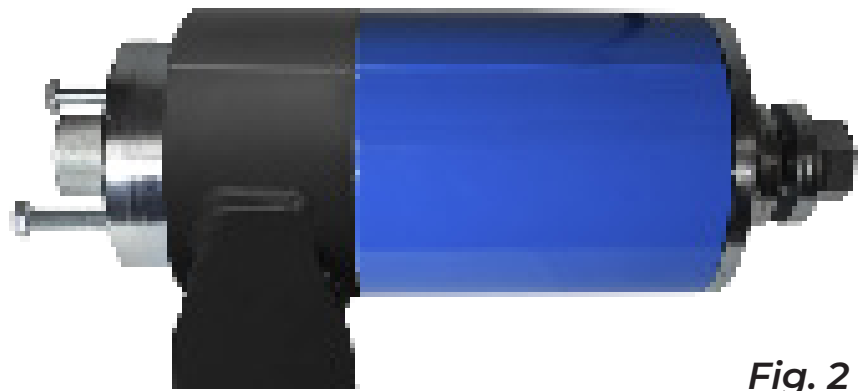

Fig. 2
4. Create two lines on the trailing arm using white marker or similar, one either side, as reference points. Rotate the receiver tube to line up with one of the marked lines on the trailing arm (fig. 2).